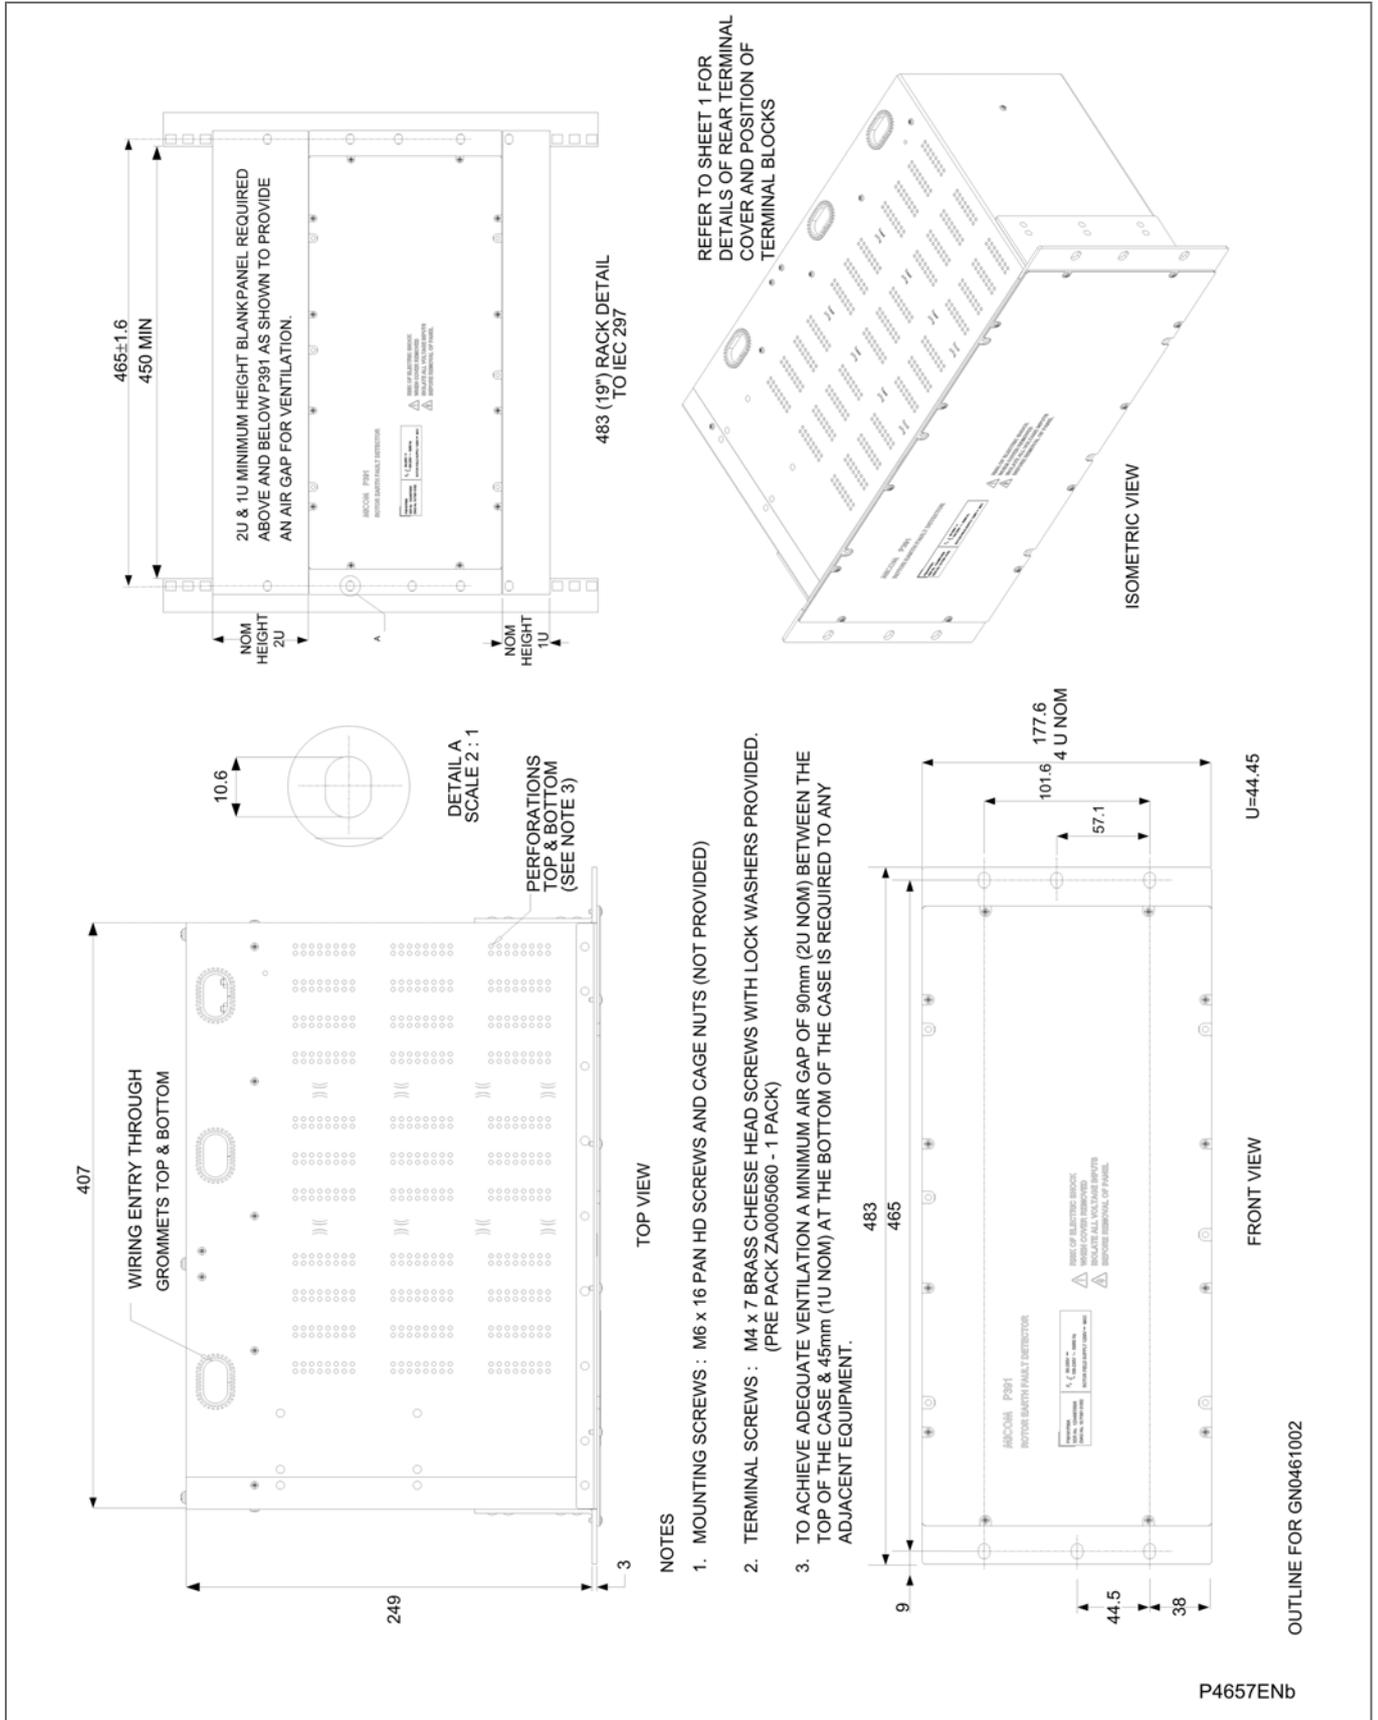

Figure 35 - P391 outline and rack mounting details (80TE case)
- Figure 35 - P391 outline and rack mounting details (80TE case)